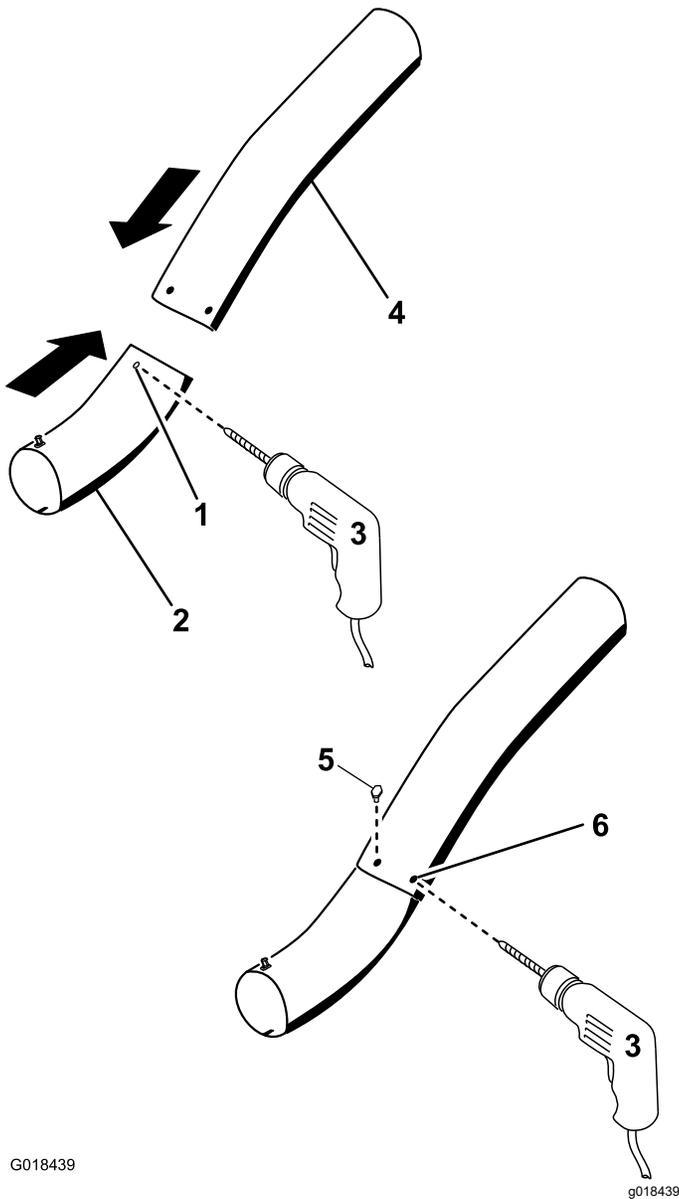

Figure 32
13. Using the existing holes in the upper tube as a template, drill 2 holes, 6.5 mm (1/4 inch) diameter, through the dimples on the lower tube (Figure 32).
16. Install the washers (1/4 inch) onto the bolts (Figure 32).
17. Using a hex key tool, install the screws (1/4 x 3/4 inch) and washers (1/4 inch) from the inside of the lower tube and through the existing holes in the upper tube (Figure 32).
18. Secure the tubes together with the nuts (1/4 inch) as shown in Figure 32.